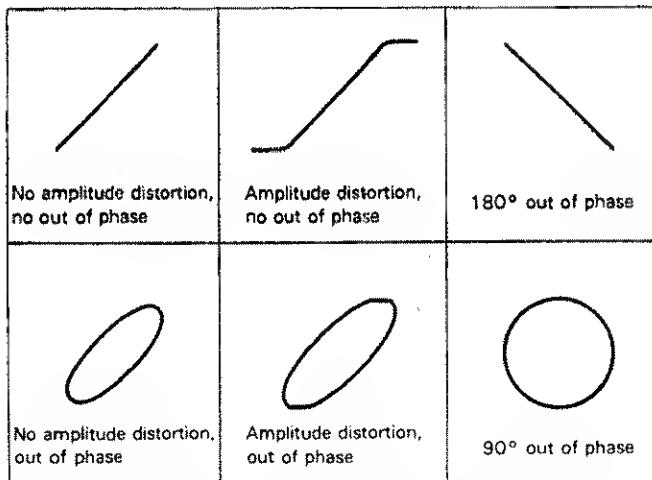

Fig. 19. Typical X-Y Phase Measurement Displays.
(refer to Fig. 19.)
5. If necessary, repeat step 3, readjusting the channel 1 and 2 gain controls for a suitable viewing size. Some typical results are shown in Fig. 19.